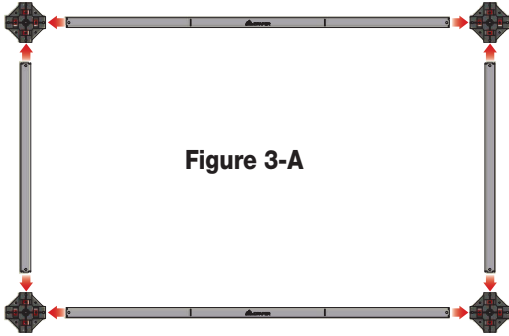

Figure 3-A
1. Assemble the Draper Mount Interface on the floor (see Fig. 3-A).
2. Connect the frame pieces and secure them with the provided hardware (see Fig. 3-B Below).